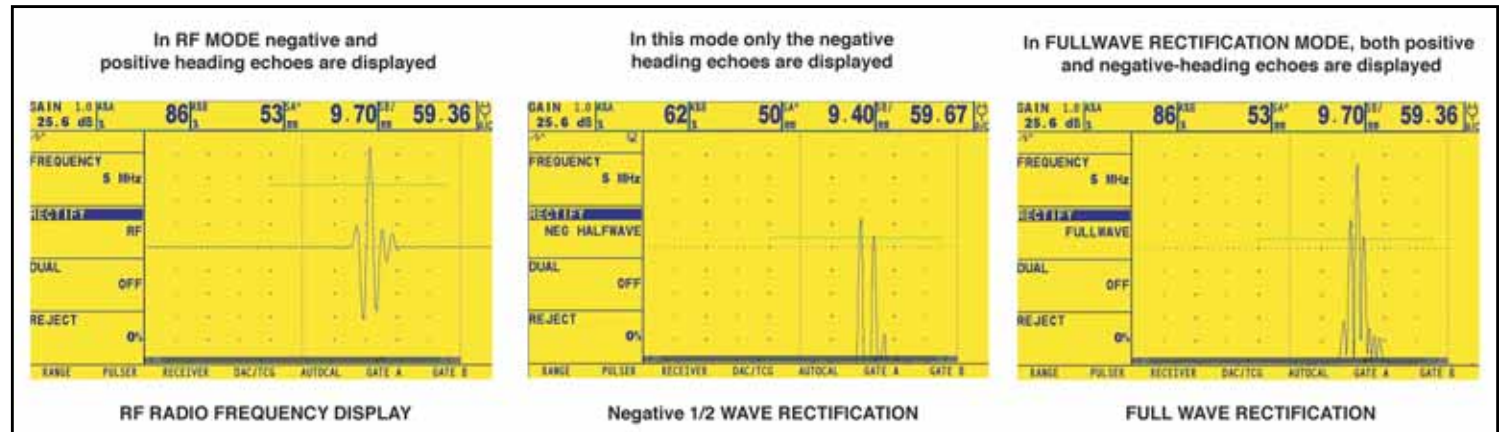

Figure 12: Typical RF and Rectified Signals
Rectification effects the orientation of the A-scan on the display screen. The A-scan represents the sound pulse (i.e. echo) that is returned to the instrument from the material being tested. The series of echoes looks like the *Radio Frequency (RF)* signal shown in *Figure 12* below. Note that the RF signal has both a negative component below the axis and a positive component above the axis. In RF mode, Gate A and Gate B can be positioned either above or below the axis, to be triggered by either a positive-heading echo or a negative-heading echo.
- *Negative Half Rectification* means that only the bottom (i.e. negative) half of the RF signal is displayed (see *Figure 12 on page 61*). Note that although only the negative half of the RF signal is displayed, it is shown in the same orientation as a positive component to simplify viewing.
- *Full-Wave Rectification* combines the positive- and negative-rectified signals together, and displays both of them in a positive orientation (see *Figure 12 on page 61*).